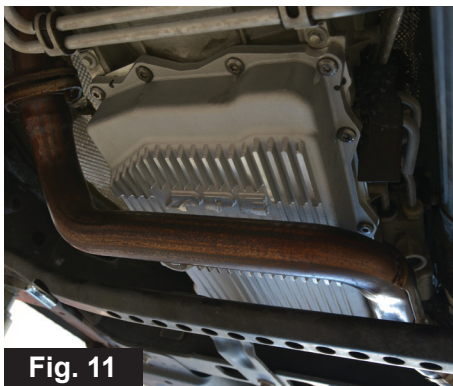

Fig. 11
15. Reinstall the frame crossmember. (Fig 11)